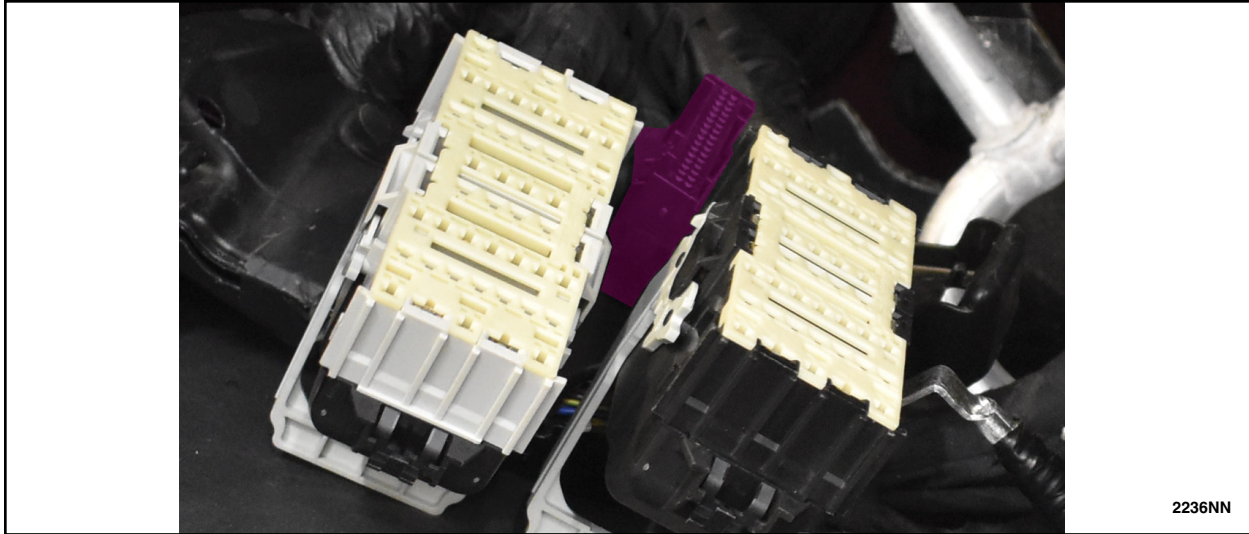

FIGURE 45
54. Identify connector C1035C. See Figure 45. If needed wire covering can be pulled back.